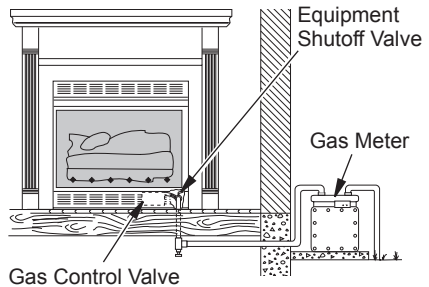

Figure 22 - Checking Gas Joints for Natural Gas
3. Check all joints from gas meter to equipment shutoff valve for natural gas or propane/LP supply to equipment shutoff valve for propane/LP (see Figures 22 or 23). Apply noncorrosive leak detection fluid to all joints. Bubbles forming show a leak.
4. Check all joints from equipment shutoff valve to gas control valve (see Figures 22 or 23). Apply noncorrosive leak detection fluid to all joints. Bubbles forming show a leak.